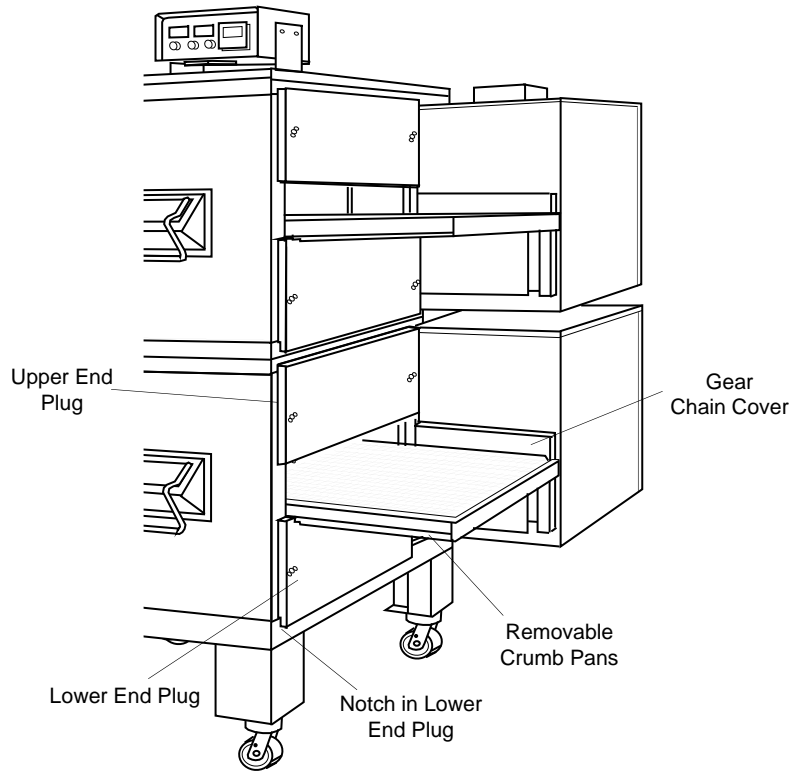

Figure 4-24.
3. Reassemble lower end plugs to both ends of oven. Refer to Figure 4-24. Notice that the lower end plugs have a notch in them. Position the lower end plugs against the oven and then up into place. Use the wing nuts to secure the end plugs to the oven.